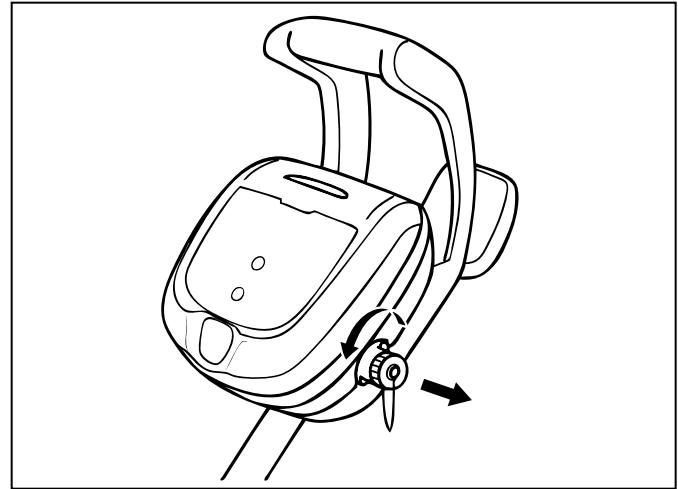

Figure 12. Remove Protective Cap
1. Unscrew the protective cap for the power cable from the side of the control unit by turning counter-clockwise (Figure 12).